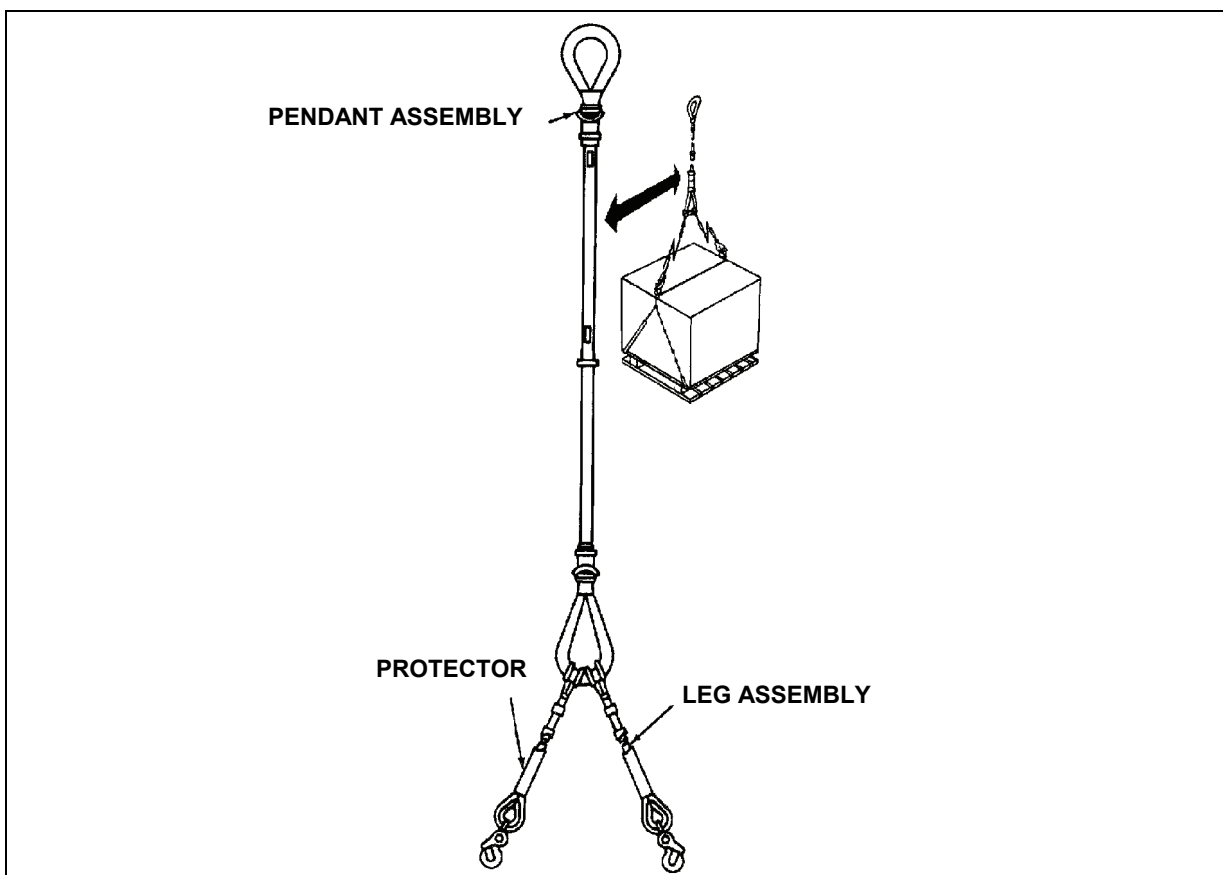

Figure 9-6. Hoisting Sling Mk 128 Mod 0
- **Hoisting Sling Mk128 Mod 0.** This sling consists of two parts: the pendant and the legs (two per unit). The pendant has a spliced eye at each end and a stiffening tube to allow for extended hookup (Figure 9-6). One eye attaches to the cargo hook. The other eye is for attachment of the leg assembly. The legs, color-coded green, have a spliced eye at one end and a hook at the other end. The legs are fastened to the eye of the pendant with a choker hitch. The entire assembly with one or more legs is rated at 4,000 pounds.